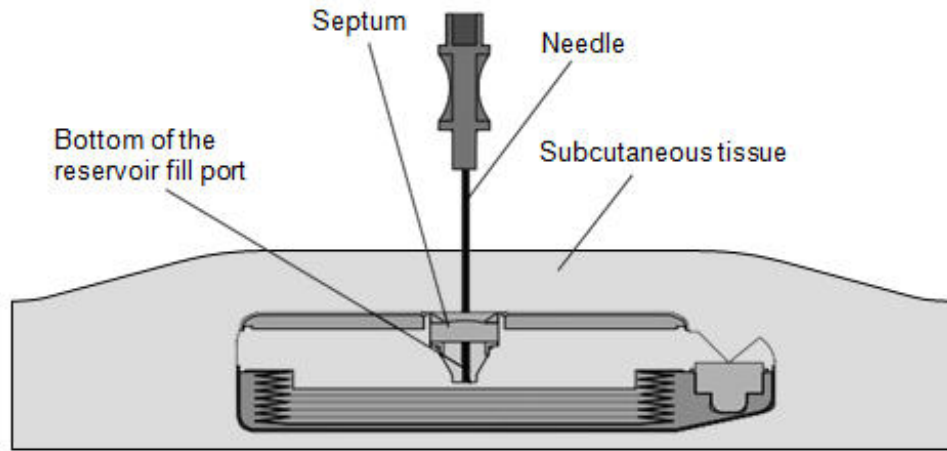

Figure 3. View inside of a SynchroMed programmable pump while the needle is fully and properly inserted.
8. Gently insert the 22-gauge needle perpendicular to the surface of the pump through the **center** of the template and into the center of the reservoir fill port until the needle touches the bottom of the reservoir fill port (Figures: 3 - 4).